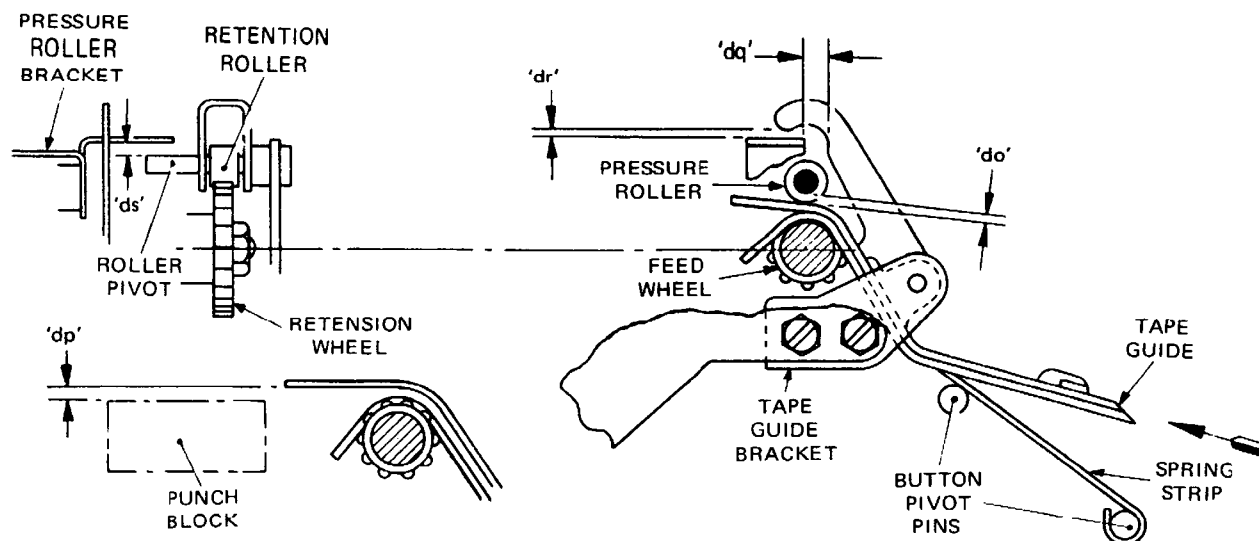

Fig. 4.128 TAPE GUIDE
- 139.1 Unclip the spring strip from the button pivot pins and check that the gap between the tape guide and the pressure roller (dimension 'do' of Fig. 4.128) is at least 0.002 inch.
- 140.1 Engage the retention roller in the retention wheel and check that the gap between the pressure roller bracket and the roller pivot (dimension 'ds' of Fig. 4.128) is 0.042–0.062 inch.